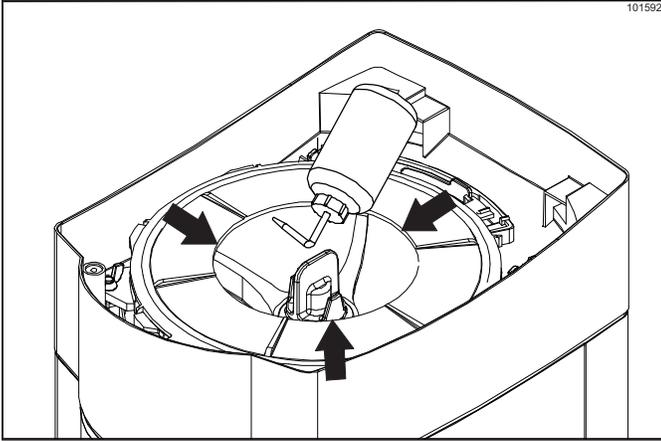

Figure 6-15
20. Thoroughly flush cleaning/sanitizing solution under the lip of the ice shaver assembly plastic cover. Make sure the solution is applied in a complete 360° circle. (See Figure 6-15.)